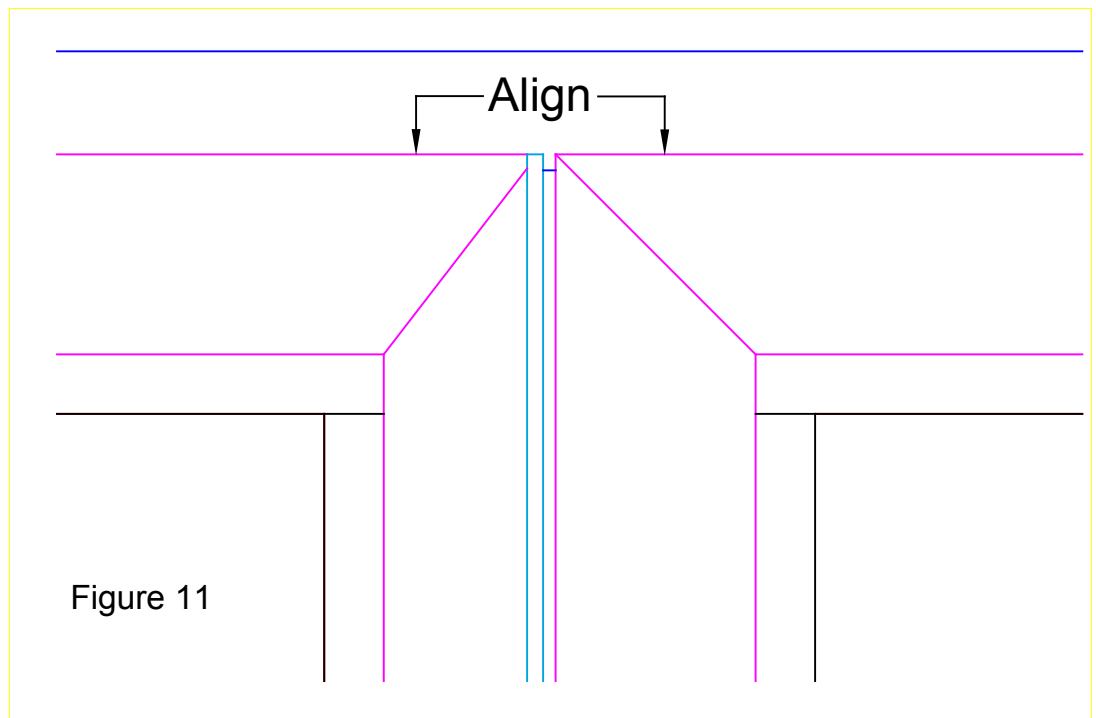

Figure 11
B. French door panels will need to be aligned with each other. It is recommended to adjust the inactive (secondary) panel and then adjust the active panel to match (See figure 11).